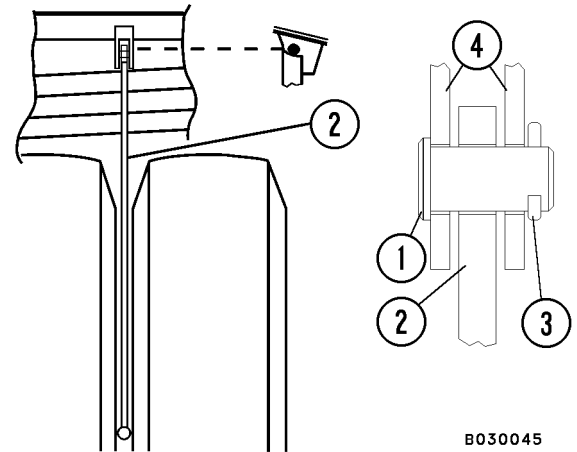

FIGURE 3-7. ROCK EJECTOR
NOTE: With Rock Ejector Arm (2, Figure 3-7) hanging vertical, there must be NO GAP at stop on bracket (4).
3. If the arm (2) becomes bent, it must be removed and straightened.
5. Inspect the mounting brackets, pins (1) and stops at each shift change for wear and/or damage, and repair as necessary.